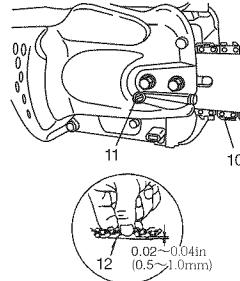

Fig. 5
7. Raise the bar end, and tighten the chain (10) by turning the tension adjustment bolt (11) clockwise. To check proper tension, lightly lift up the center of chain and there should be about 0.02~0.04in (0.5~1.0mm) clearance between bar and edge of drive link (12). (Fig. 5, 6)